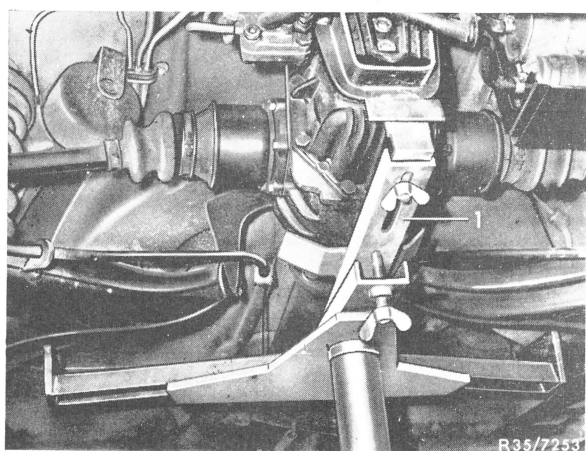

Fig. 3
- 10 Slide vehicle jack top with a vehicle jack or pit lift under rear axle and lift until seated (Fig. 3).